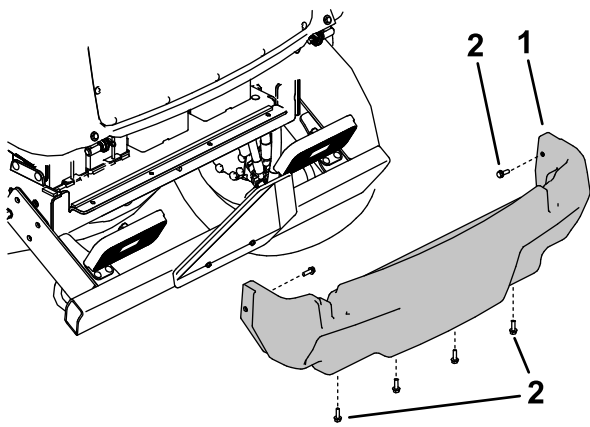

Figure 81
- Remove the 6 flange screws securing rear shroud to the frame and remove the rear shroud (Figure 81).
4. Install the rear shroud (Figure 81).